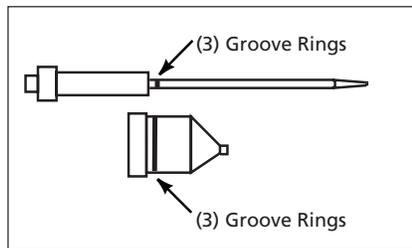

Figure 3 - All Purpose Material Needle And Nozzle Kit
- The all purpose material needle and nozzle have three groove rings as shown in Figure 3 below.